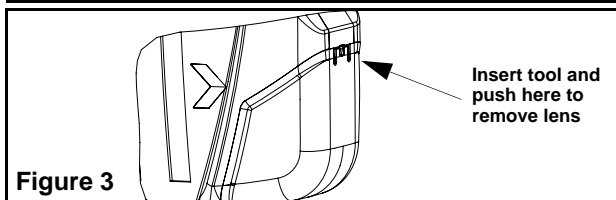

Figure 3
11. Remove lenses (See Fig. 3) and discard plastic bags. Adjust the lamps in appropriate position. Re-install both lens.